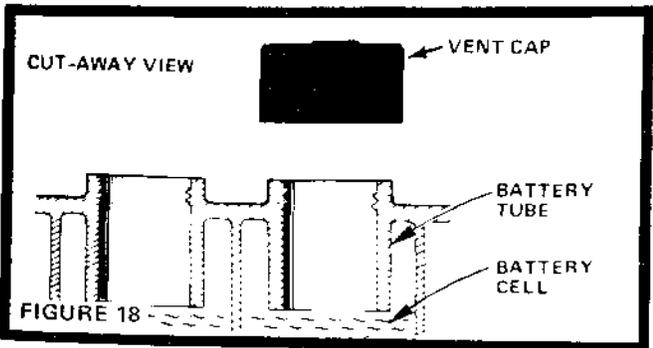

FIGURE 18
- Electrolyte solution level in each Battery Cell should be even with bottoms of tubes in cells (Fig. 18). Add distilled water if necessary. **NOTE: DO NOT OVERFILL.**